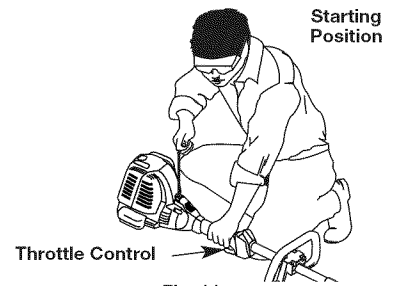

Fig. 11
**WARNING:** Avoid accidental starting. Make sure to be in the starting position when pulling the starter rope (Fig. 11). To avoid serious injury, the operator and unit must be in a stable position while starting.
4. With the unit in the starting position, **do not squeeze the throttle control** (Fig. 11). Pull the starter rope in a controlled motion until unit starts.
4. With the unit in the starting position (Fig. 11). Place the Plug-In Power Start or Power Bit Start into the back of the unit. Refer to Operation section of the Plug-In Power Start or Power Bit Start operator's manual.
5. **Do Not squeeze the throttle control**, press and hold the Plug-In Plug-In Power Start or drill's ON (I) button for 2 second intervals until unit starts.